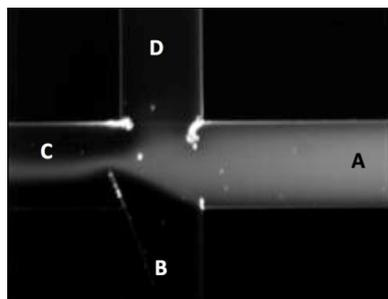

Figure 34. Pinched Injection
3. Table 4. If you are viewing the microchannel on a microscope you should observe a pinched injection as in Figure 34.
4. Press **B** to run the **Injection** step. This will sweep our injection plug onto the separation channel (ports D to B in Figure 34 above).